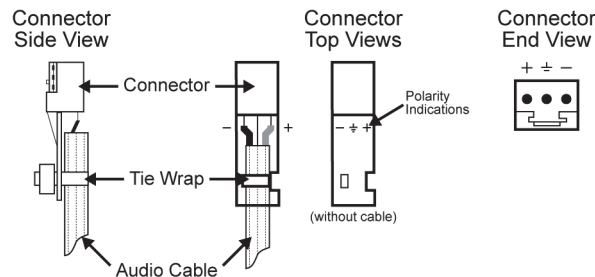

Figure 2.13 Connector Wiring for Rear Module Input Sockets
1. Insert an AES audio wire to the designated polarity slot on the connector of the rear module. (**Figure 2.13**)